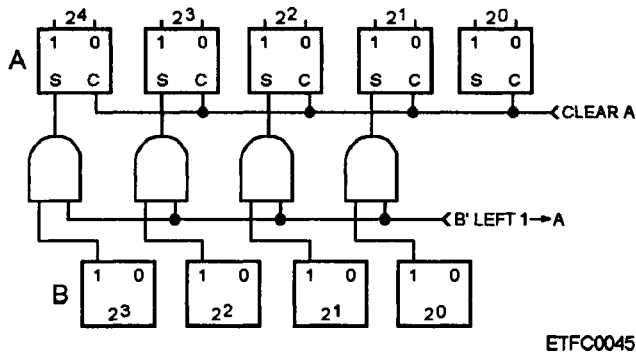

Figure 4-28.—Example of a single-line parallel displaced transfer.
• **Displaced** —Displaced is also similar to the single-line parallel transfer except the set side outputs of the sending register are gated to the set side inputs of the receiving register one or more orders to the right or left. Refer to figure 4-28 as an example of a displaced transfer.